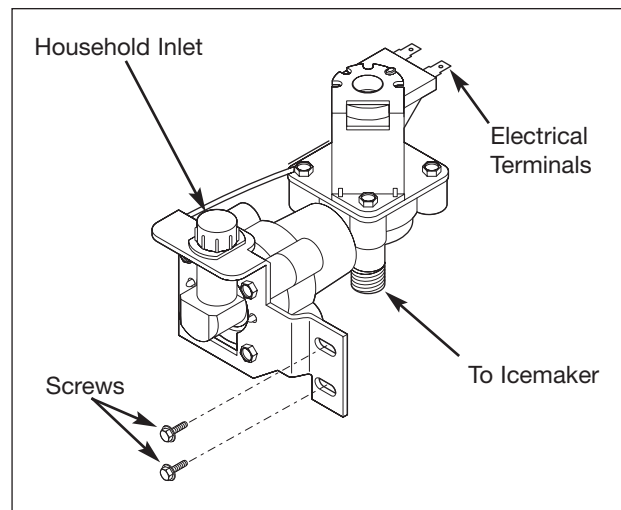

Figure 5-25. Water Valve Removal
3. Disconnect water valve from household water supply. (See Figure 5-25)